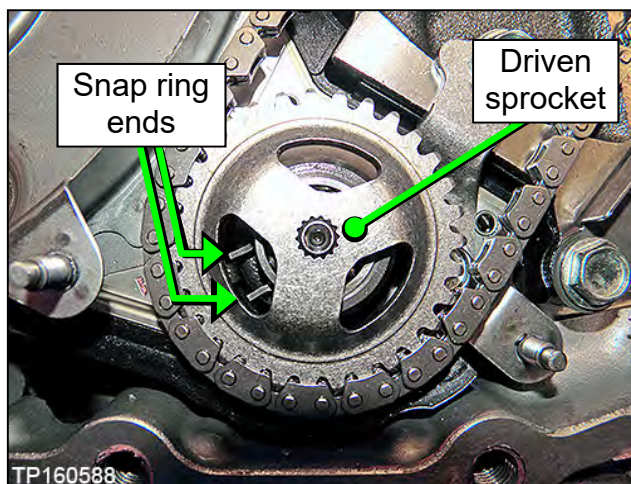

Figure 131
- Expand the snap ring with a suitable tool, and then push down on the driven sprocket until it bottoms out (Figure 131).